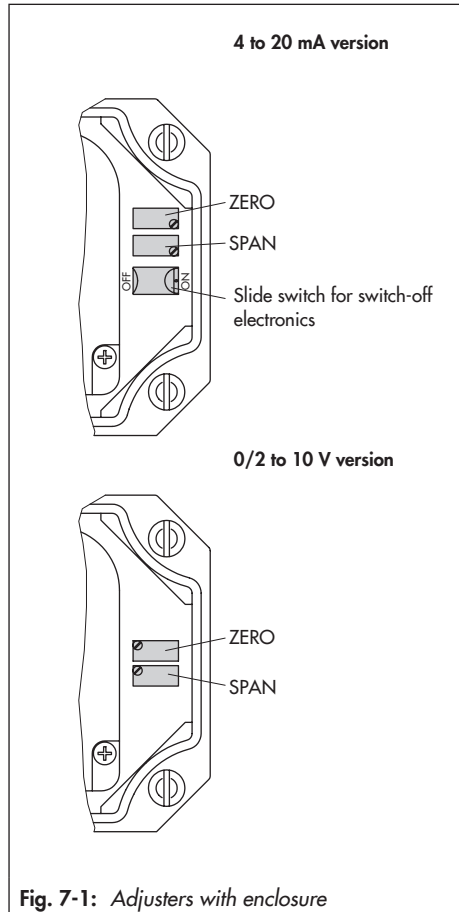

Fig. 7-1: Adjusters with enclosure
1. Unscrew the enclosure cover to access the ZERO and SPAN adjusters on the circuit board (see Fig. 7-1).